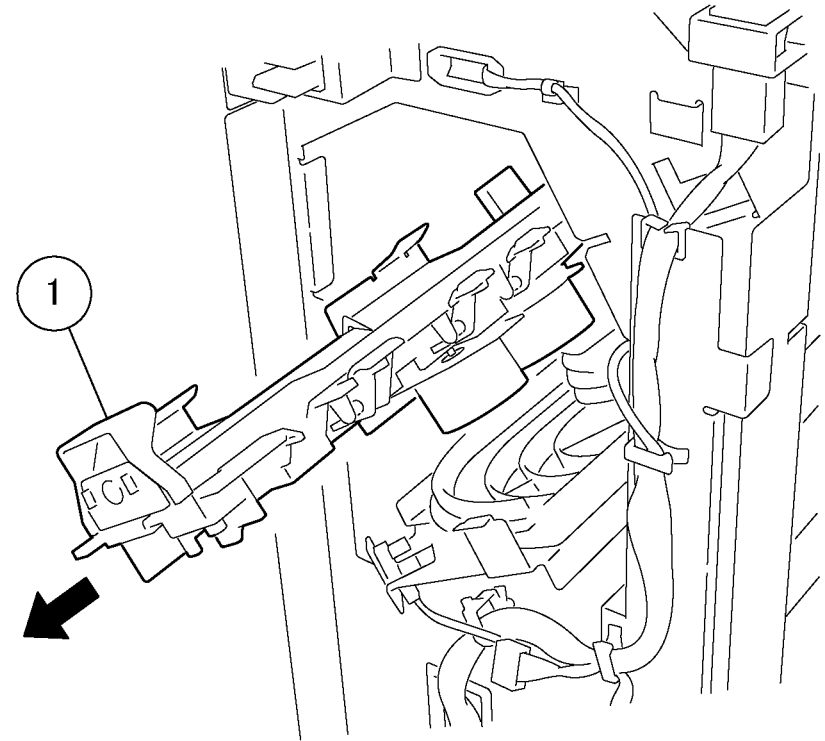

Figure 3 Removing the Compiler Assembly
5. Remove the Compiler Assembly (item 1) (Figure 3).